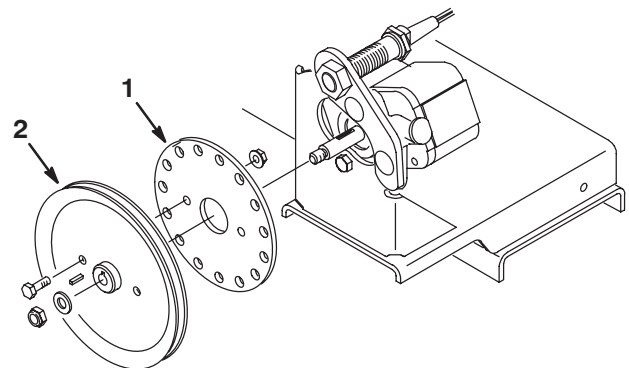

Figure 4
Note: The end of the pick-up should be flush with the nut (Fig. 4).
7. Mount the pick-up disc to the pulley (Fig. 4) with 2 cap screws and locknuts, then install the pulley to the shaft with the washer and locknut you previously removed.